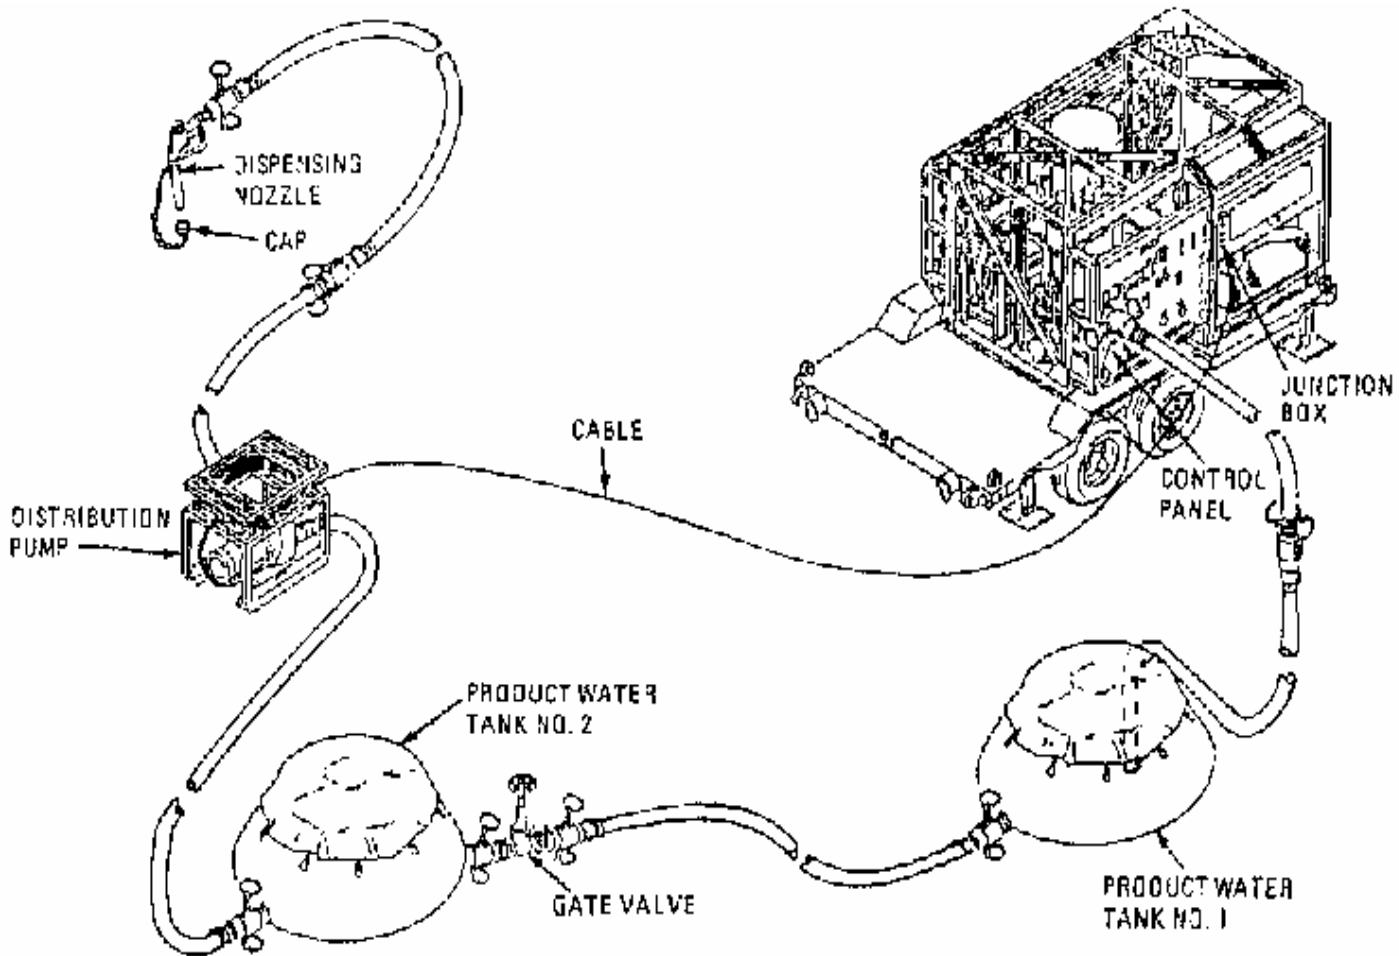
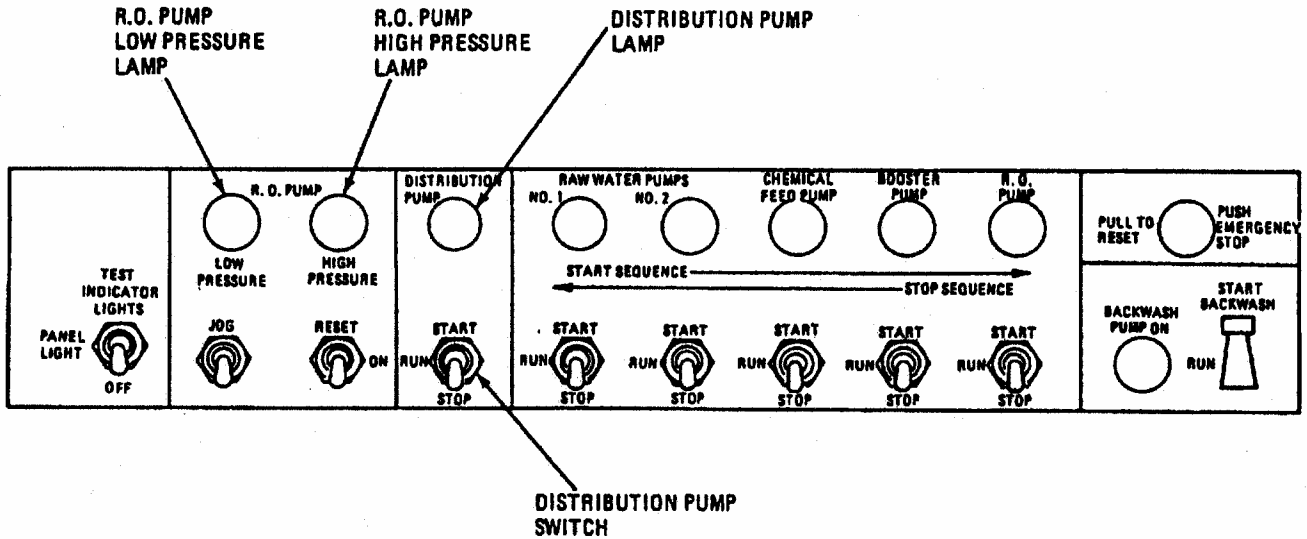

Figure 2-63. Filling Product Water Tanks
Figure 2-64. Start Distribution Pump.
- I. Fill Product Water Tanks. Refer to figure 2-63. Product water produced by the ROWPU is stored in two product water tanks. Product water tank No. 2 must be at the same level or lower (down hill) than tank No. 1 for proper water flow.
- (1) Set DISTRIBUTION PUMP switch (figure 2-64) on control box to START. DISTRIBUTION PUMP lamp will come on.
- (2) Remove cap from dispensing nozzle (figure 2-63). Squeeze handle on dispensing nozzle to start water flow.
- (3) As required, open gate valve between product water tanks No. 1 and No. 2 to ensure water flow to distribution pump.
- (4) Operate distribution pump until user has enough water, then set DISTRIBUTION PUMP switch (figure 2-64) to STOP.
- (5) Release handle on dispensing nozzle (figure 2-63). Install cap on end of dispensing nozzle.
p. Monitor R.O. Pump Pressure. Refer to figure 2-64.